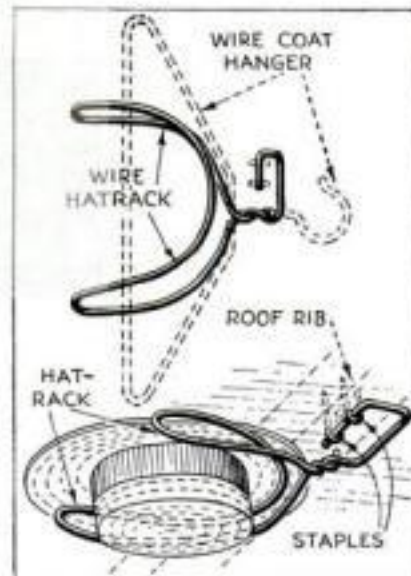

Fig. 6. Bend arms of coat hanger inward; staple to rib in top. This is a good hatrack
**M**ANY motorists find it more comfortable to drive in hot weather with their hats removed. This brings up the problem of what to do with the hat when the car holds a full complement of passengers. Figure 6 shows a simple hatrack that can be made out of the ordinary wire type of coat hanger. The straight cross wire is curved inward and the ends brought out to form a half circle. With the hoop bent as shown, a couple of staples will hold the hatrack securely to a rib in the top of the car. If it is more convenient, fasten the holder to the side of the car with the hoop pointing upward.